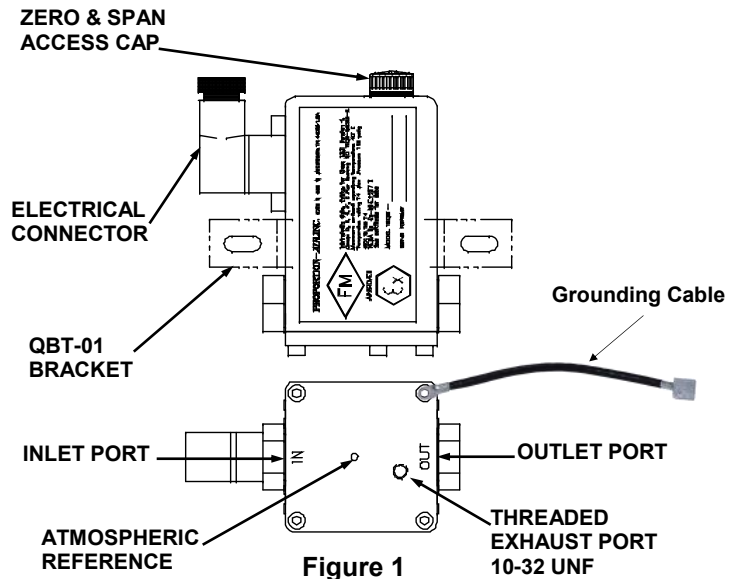
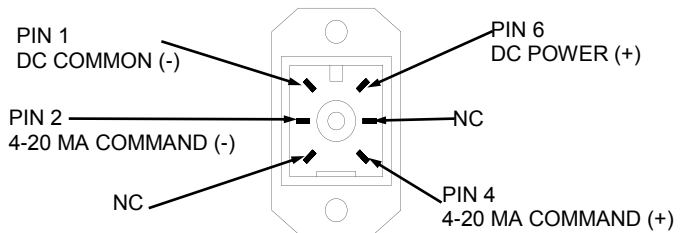

Figure 1
Figure 2
2. Connect supply pressure to the “IN” INLET PORT (figure 1). See Table 1 for maximum supply pressure.
3. Connect the “OUT” OUTLET PORT (figure 1) to the device being controlled.
4. Media vents through exhaust port. If the media is hazardous (classified), the threaded exhaust port (figure 1) should be vented to a different location to maintain a Class I, Division 2 area at the BVISF unit.
2. Figure 1 shows the location of the BVISF1 electrical connector and figure 2 shows the connector. Table 2 identifies each connection
4. Connect ground wire to intrinsically safe ground (figure 1).
3. Provide supply pressure to the INLET PORT of the BVISQB1. (See figure 1). Make sure supply pressure does not exceed the rating for the valve.
4. Remove the zero and span plug on top of the BVISF1 to access the ZERO and SPAN adjustment potentiometers (figure 1).